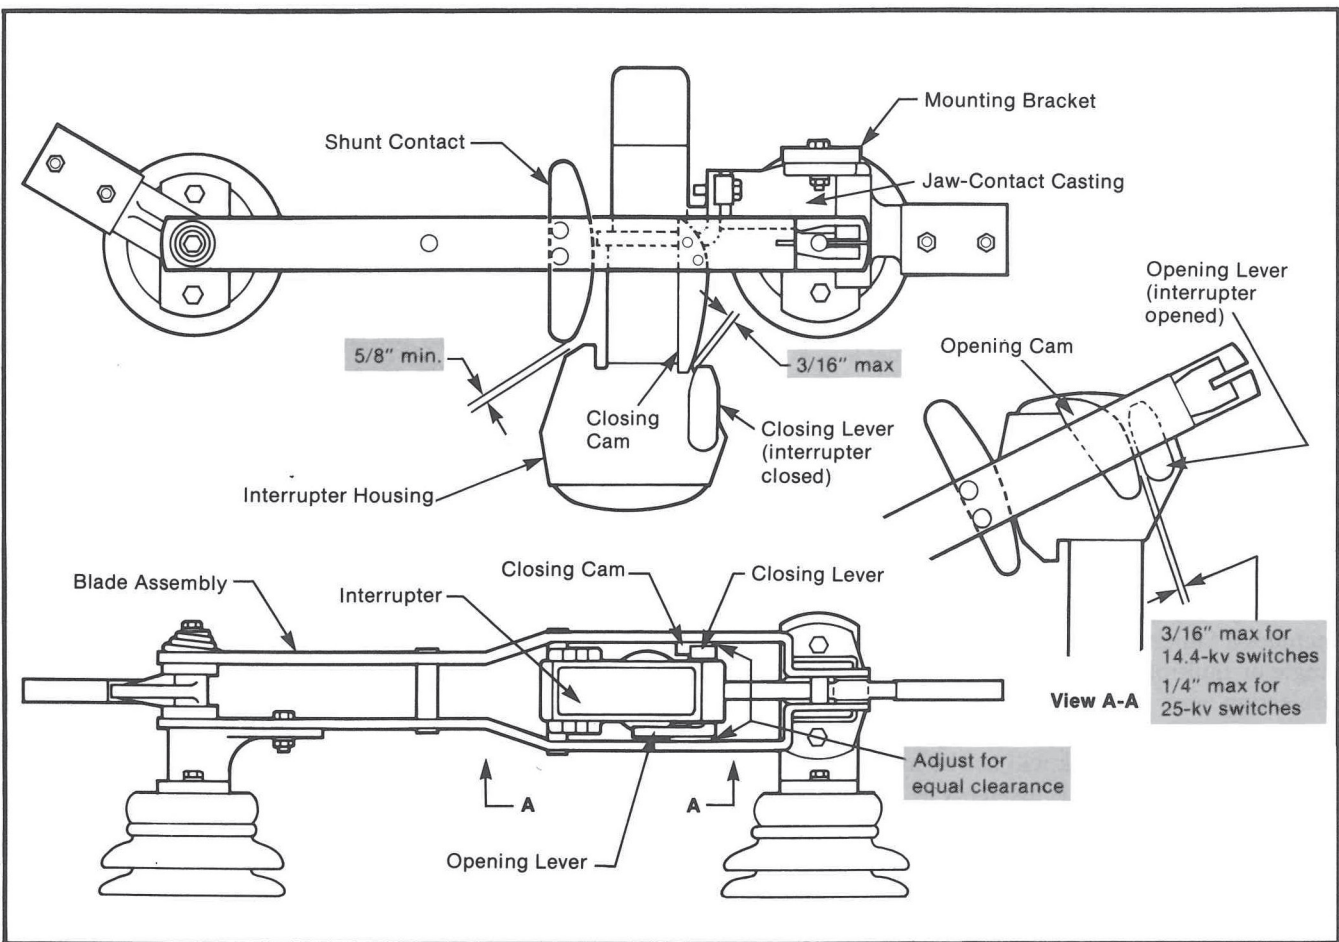

Figure 29. Operation checkpoints.
- (a) The interrupter must lie in a plane parallel to the sweep of the blades, and the blades must pass over the interrupter with equal clearance on both sides. See Figure 29.
- (b) As the blade moves in the closing direction, clearance between the blade-opening cam and the interrupter-opening lever must be within the limit shown in Figure 29, View A-A.
- (c) In the fully **Closed** position, clearance between the blade-closing cam and the interrupter-closing lever must be within the limit as shown in Figure 29. Also, the clearance between the blade-shunt contact and the interrupter housing must be as shown in Figure 29.